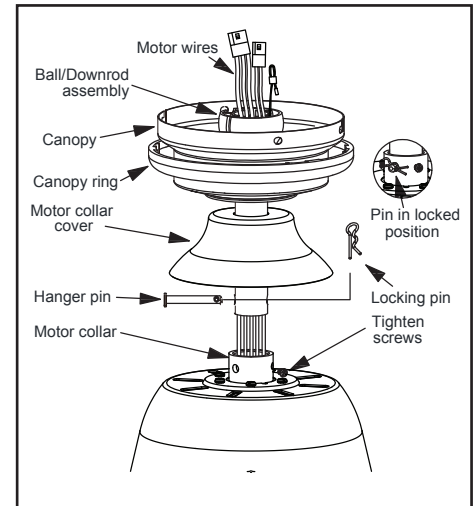

Figure 7
4. Route the wires exiting the top of the fan motor through the decorative motor collar cover then the canopy ring. Make sure the slot openings are on top. Route the wires through the canopy and then through the ball/downrod assembly. (Figure 7)
6. Align the holes at the bottom of the downrod with the holes in the collar on top of the motor housing. (Figure 7) Carefully insert the hanger pin through the holes in the collar and downrod. Be careful not to jam the hanger pin against the wiring inside the downrod. Insert the locking pin through the hole near the end of the bolt until it snaps into its locked position, as noted in the circle inset of Figure 7.